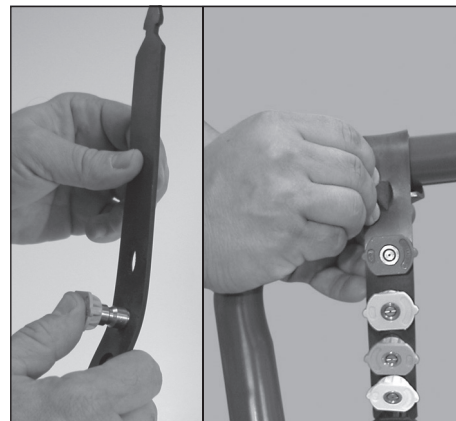

Figure 13 - Insert spray tips into rubber tip holder
6. Install quick connect tips to tip holder and secure to the pressure washer handle (see Figure 13).